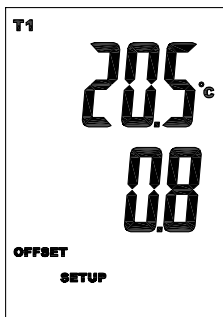

Fig.1
1. When the meter is in Setup mode, the display shows the **SETUP** icon. Press **▲/T1–T2/T3–T4** button or **Hold/▼** button to scroll to the **T1 offset setup** option screen (Fig 1).